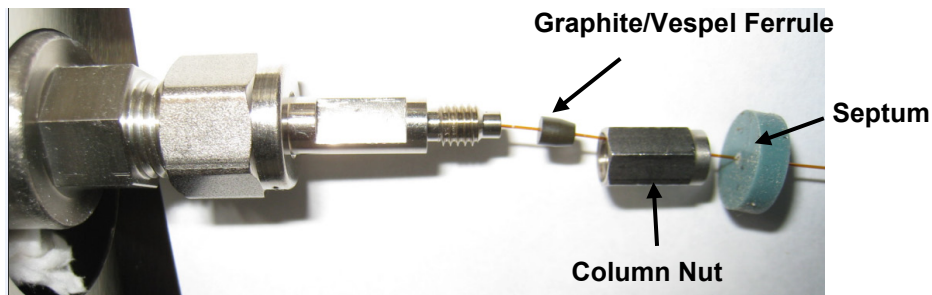

Figure 18 Location of septum on capillary column.
3. With the tapered end facing towards the column nut, slide a graphite/vespel ferrule over the outlet end of the column. See Figure 18.
8. With the tapered end facing towards the column nut, slide a graphite/vespel ferrule over the outlet end of the column. See Figure 18.